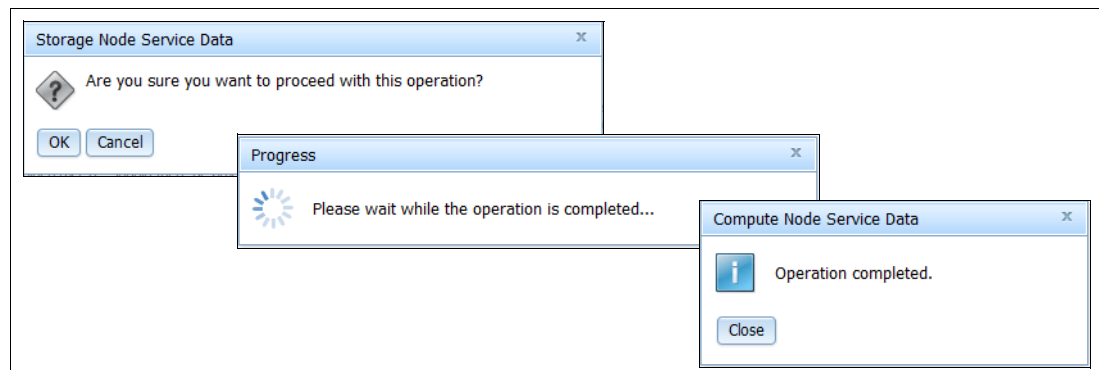

Figure 3-37 Status dialog boxes
- System will prompt you for verification, indicate that operation is in progress, and then its completion, as shown in Figure 3-37.